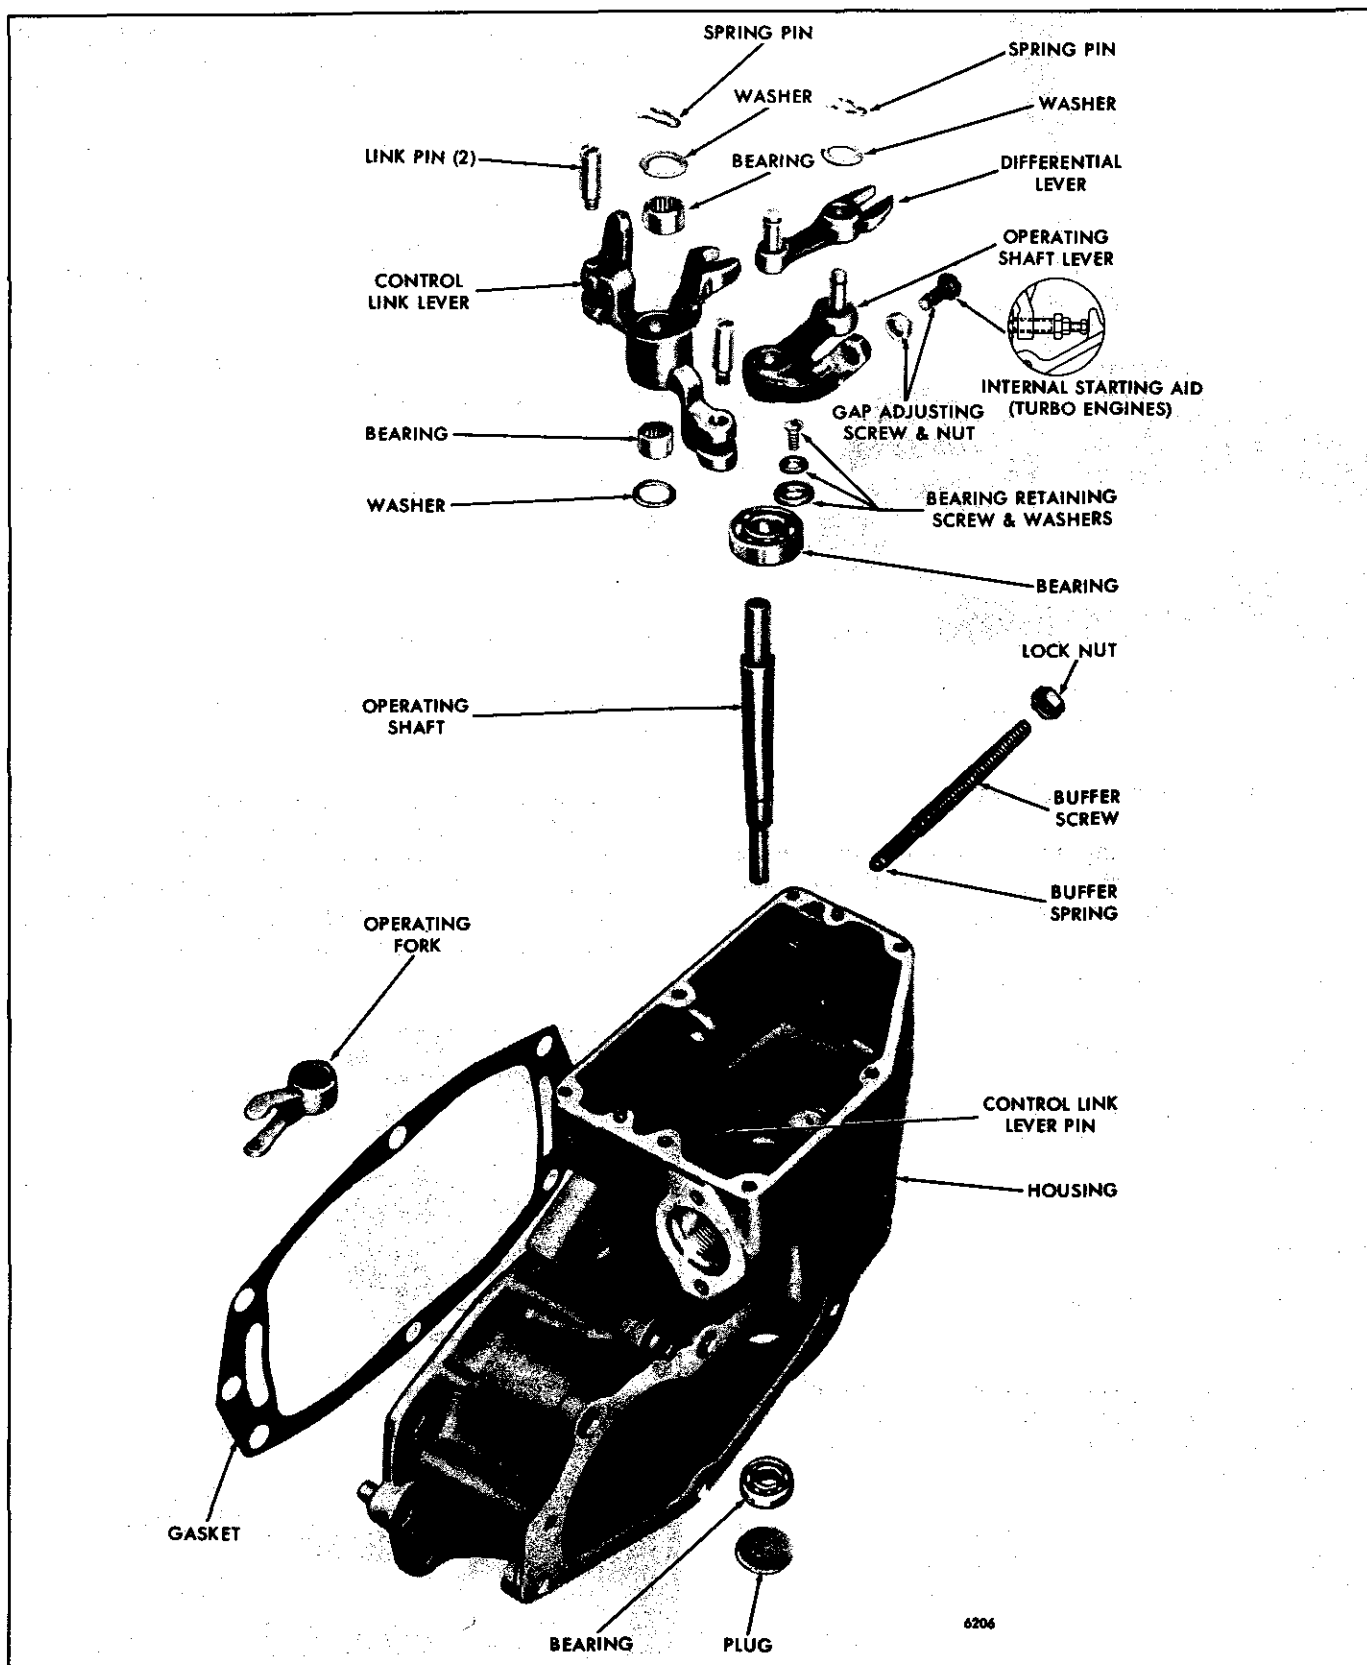

Fig. 7 - Governor Housing Details and Relative Location of Parts
To limit fuel input during engine start-up, when the speed control lever is in its idle position, the turbocharged engines use a starting aid screw (Fig. 7).
2. Remove the spring pin and washer from the control link lever pin (Fig. 7) and withdraw the control link lever and washer.
Refer to Fig. 7 and assemble the governor housing as follows: